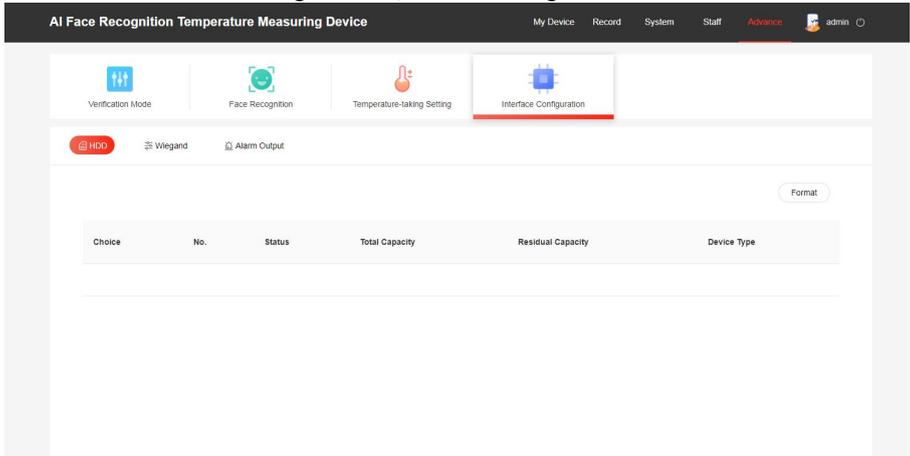

Figure 7-26
Step 1: After logging in to the web page, click "Advance → Interface Configuration → HDD" to enter the HDD Setting interface, as shown in Figure 7-26 below.